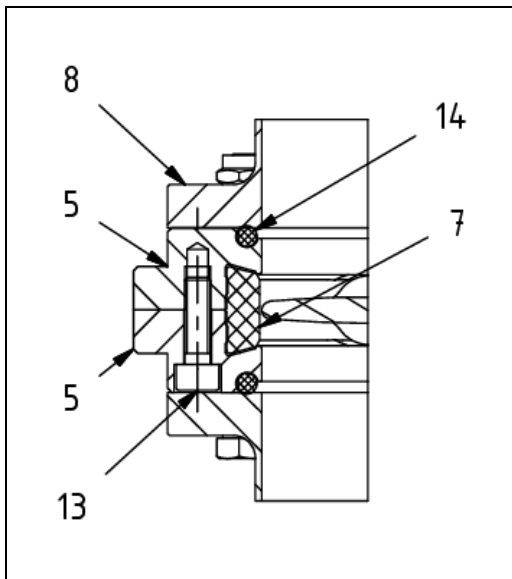

Fig. 6.2: Screw Fitting of the Inner Flange (1)
- Insert the O-rings (Fig. 6.2 Fig. 6-2, item 14) into the groove in the inner flange (Fig. 6.2, item 5).
- Position the valve between the outer flanges (Fig. 6-2, item 8). When doing so, make sure that the holes in the outer flange are aligned with those in the pre-installed valve.